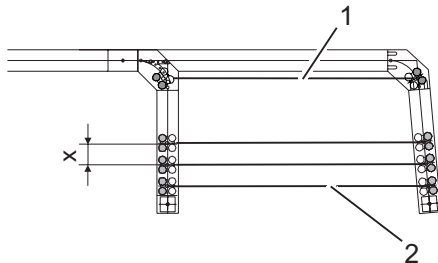

Fig. 21: Stacking arrangement in the stacking area (example)
8. Depending on the door handle and/or lever, align the panel in the stacking area in such a way that the distance from the other panels is dimension x (Fig. 21). Observe the system drawing.
10. Check whether the panel stops are at the correct distance (Fig. 21/dimension x) and parallel to the panel in front of it at the intended position in the stacking area. Otherwise, readjust the parking position.